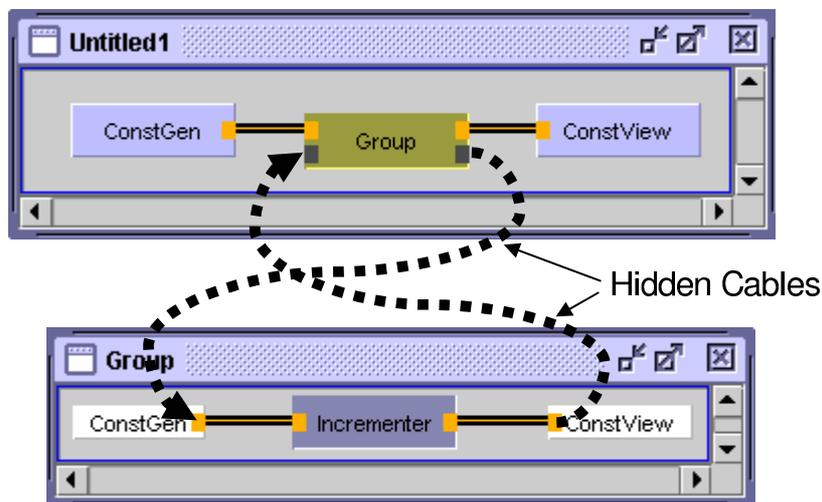

Figure 3: Looping over a group of tasks using the Loop tool as a hidden control task.
A more elegant solution than inserting a loop directly into the workflow is to use a hidden control task to loop over a group of tasks. When a group is created from one or more tasks (using *Edit*→*Group*) a hidden control task is automatically attached to handle the input/output from the group; by default this task is an instance of Loop tool. As shown in Figure 3, the topology of the cables attached to this task is identical to that when a loop
- All custom control units are connected into the workflow in the same way as shown for the Loop tool in this tutorial (see Figures 3 and 6).